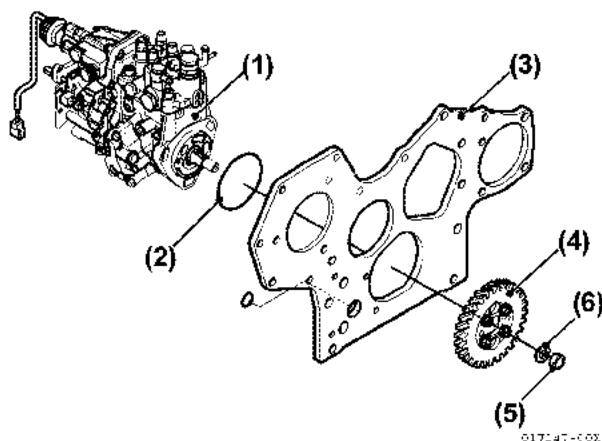

Figure 5-160
(Figure 5-160, (1)). **NOTICE:** Never remove the bolts when tightening the fuel injection drive gear and fuel injection pump hub. Fuel injection timing may differ from the proper set value.